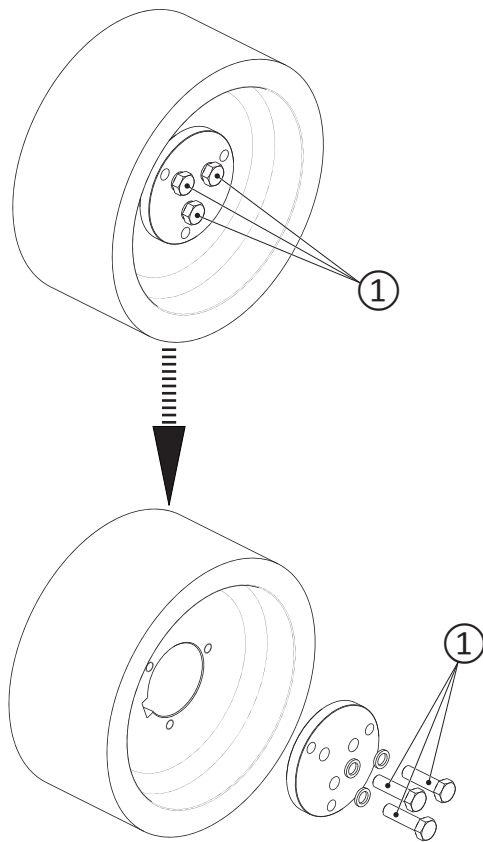
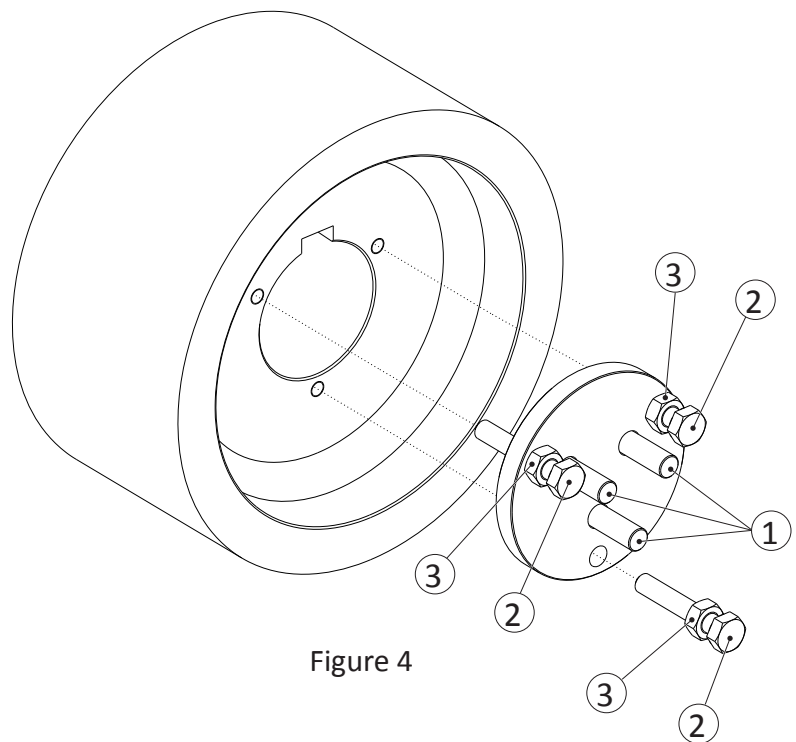

Figure 3
Figure 4
- Unscrew the retaining screws ① “Figure 3” and place them as shown in “Figure 4”.
- Tighten the nuts ③ on the screws ② and place them as shown in “Figure 4”.
- Tighten the ② screws by 15/20 mm in the threaded holes on the pulley.
- Remove the pulley by tightening in circular sequence the nuts ③, while holding the pulley screws ② firm.
① SCREWS M12x45
② SCREWS M10x60 (not included in the standard supply)
③ NUTS M10 (not included in the standard supply)